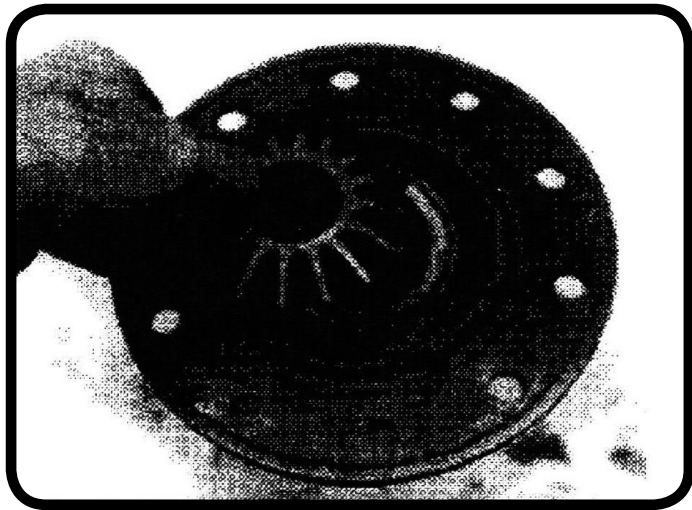

Figure 6
1. Place a thrust washer into the bottom of the case, smoothest side up, and place the gear that formerly was in the top of the case into the bottom (**Figure 6**).